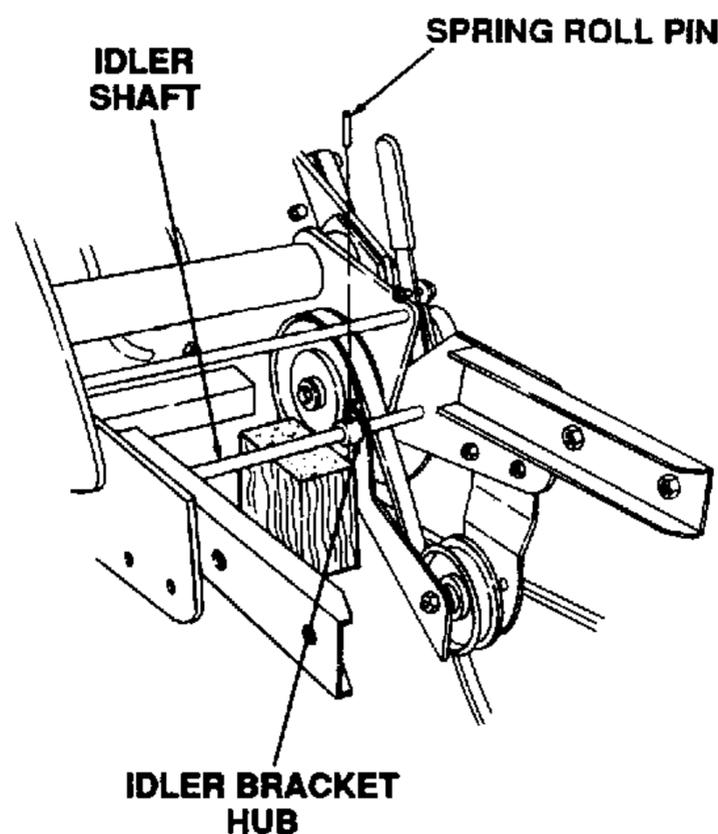

Figure 7-56. Installing Roll Pin.
- Align the hole of the idler bracket (9) hub with the hole in the idler shaft (8). Using a block of wood to support the idler shaft, drive the spring roll pin (38) through the holes as shown in Figure 7-56.